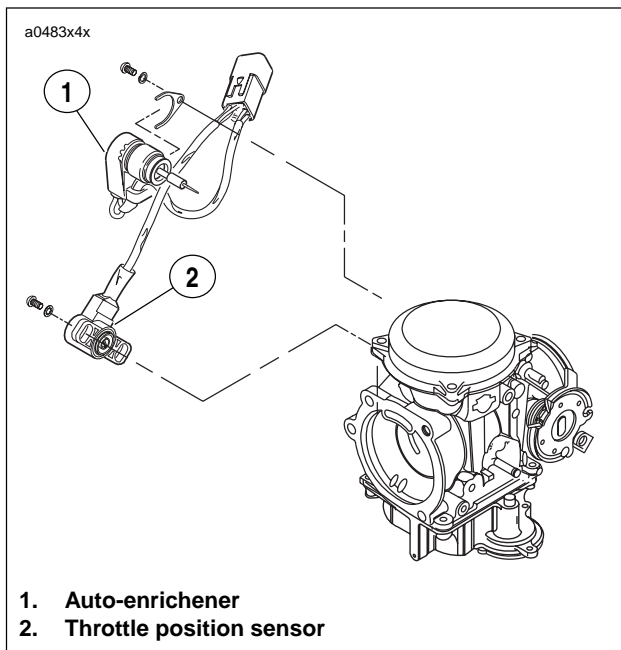

Figure 4-19. Location of Auto-Enrichener and Throttle Position Sensor
6. See Figure 4-19. Remove Phillips screw (with lock washer) to release stay plate on auto-enrichener from carburetor housing. Pull enrichener from carburetor bore.